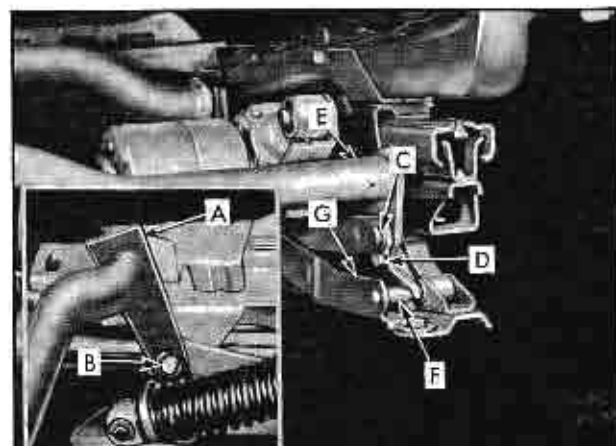

Fig. 3-63 Removal of Electrical Seat Adjuster
2. Remove horizontal equalizing rod retaining ring "A", Fig. 3-63. Remove retaining ring "B"